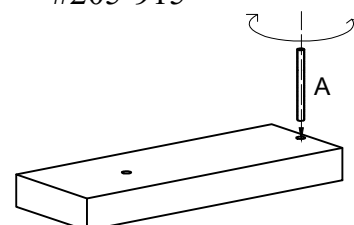

Figure 1
2. Attach the threaded rod (A) to the legs by hands As Shown in Figure 1.